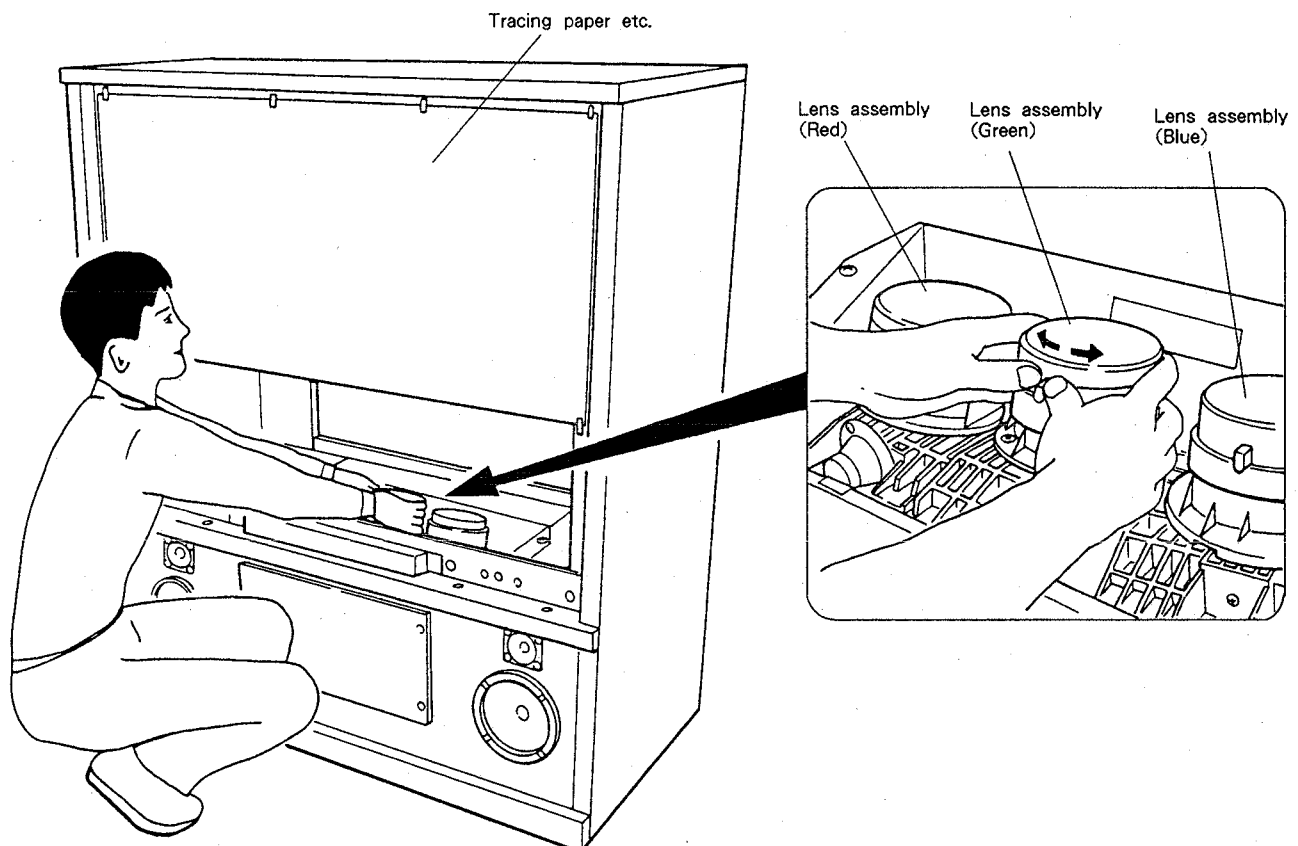

Fig. 9-10 Adjustment point (4)
- Remove the lenticular sheet, and attach tracing paper with a plastic tape, etc. instead. (Refer to Fig. 9-10.) Adjust the focus of the lens assembly newly mounted, by observing the picture shown on the tracing paper.